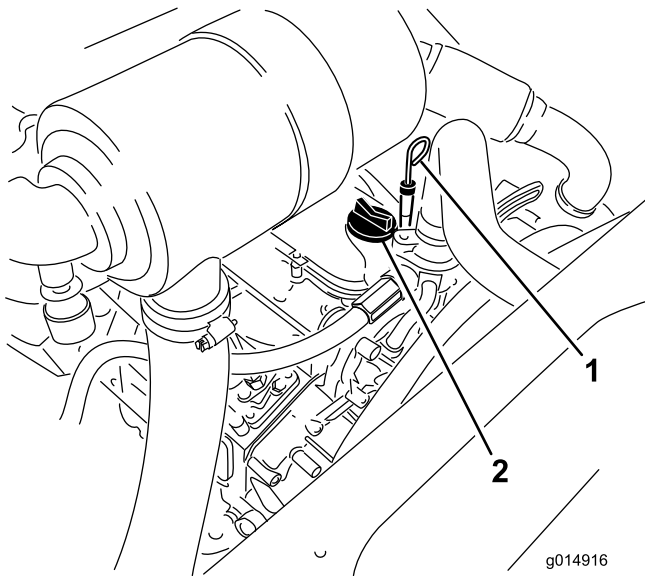

Figure 44
3. Remove the dipstick, wipe it clean, and install it (Figure 44).
5. If the oil level is below the Full mark, remove the fill cap (Figure 44) and add oil until level reaches the Full mark on dipstick.